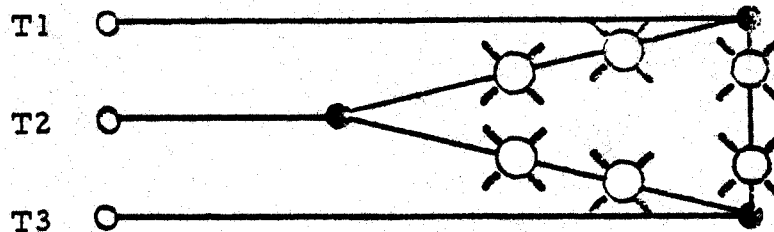

FIG 5
1. Unit can be operated with its normal load, or with a dummy load (see Figure 5).